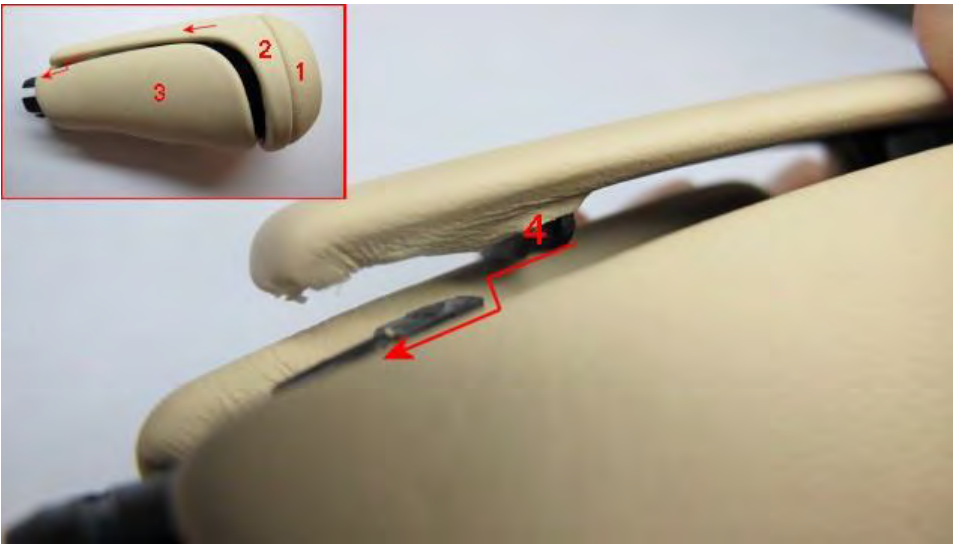

Figure 5
7. Immediately insert the top assembly (1 and 2) into the main body section (3) pushing the two parts together ensuring hook 4 engages with clip, correct engagement indicated by audible click (see Figure 5)